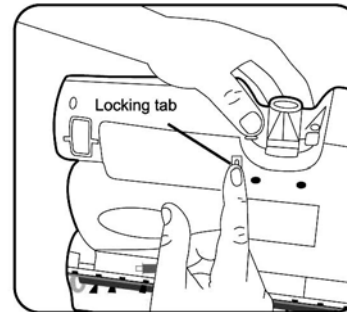

Fig. 19
2. Turn unit over so that the base is facing upwards. Be careful **NOT** to turn the unit **ON**. (Fig. 19)